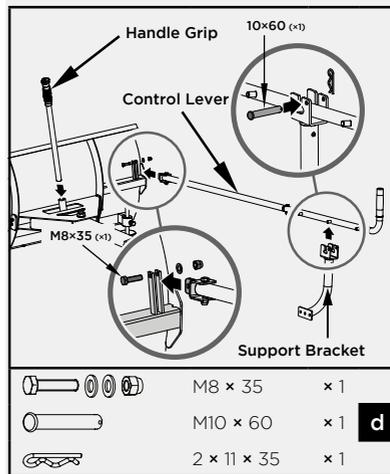

Figure 13
4. Attach control lever to the guide tube. Line up holes and fasten with M8×35 bolt, washers and nut (figure 13).
5. Insert the handle grip into the holder (figure 13).
6. Secure the support bracket into the control lever with pin 10×60 and bridge clip (figure 13).